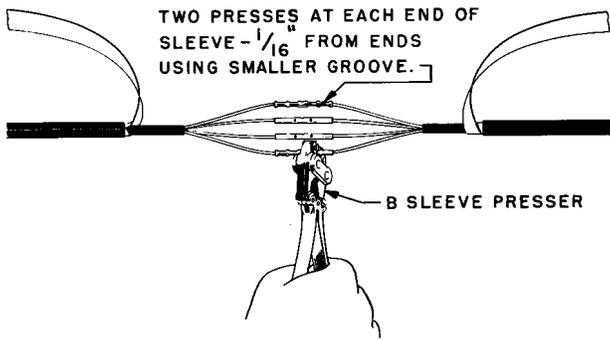

Fig. 9 – Pressing Wire Joints
4.03 Complete the wire joints by pressing the sleeves in the smaller groove of the B Sleeve Presser, as shown in Fig. 9.